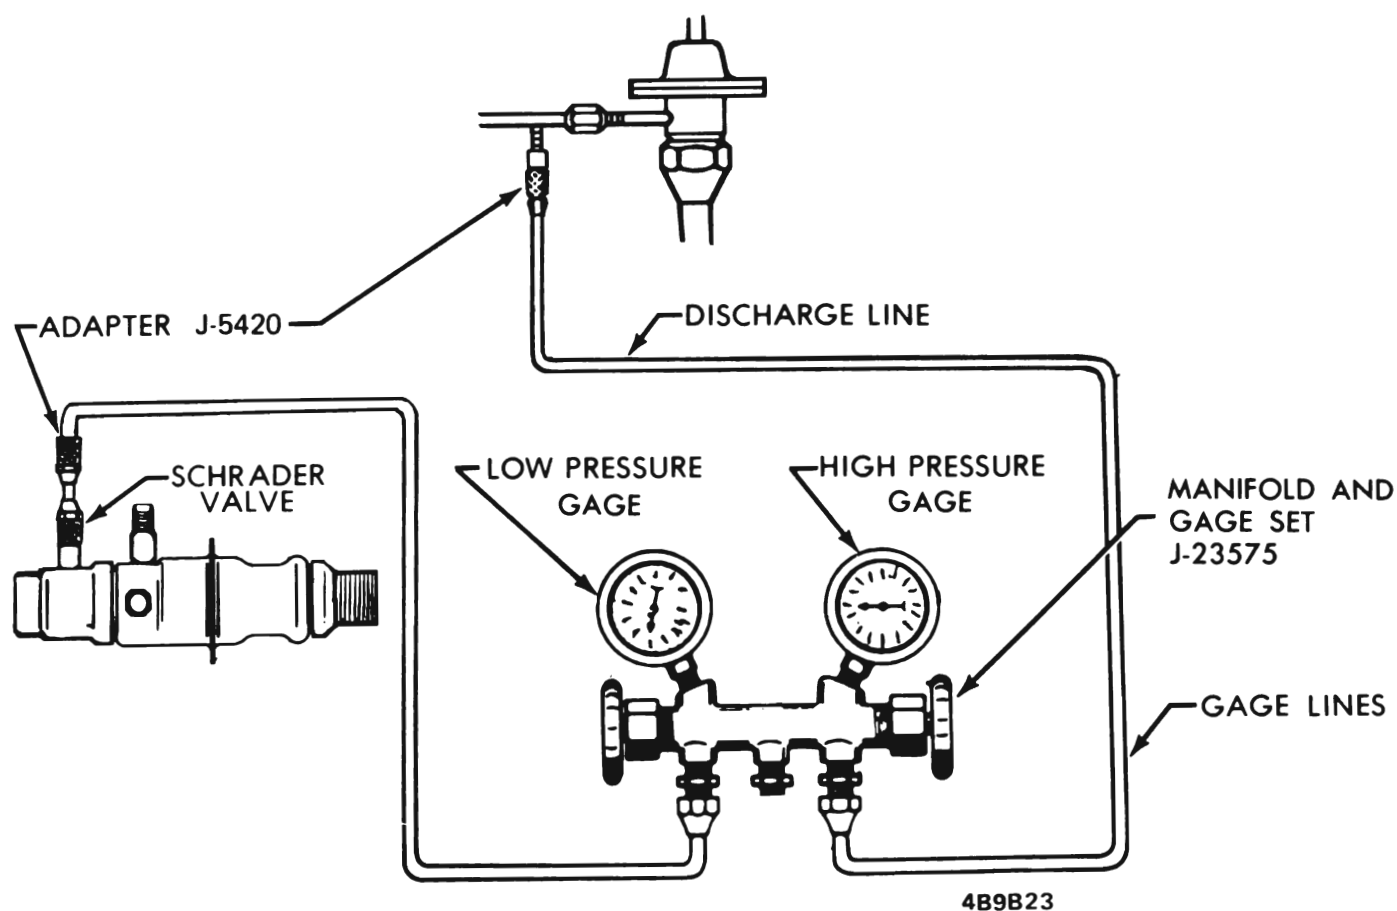

Figure 9B-20 Functional Test Set-Up - X Series
2. Interconnect manifold and gage set (J-23575), and gage adapters (J-5420) to air conditioning system as shown in Figure 9B-20.
9. Compare the actual pressures and temperatures with the pressures and temperatures indicated in the Functional Test Table (see Figure 9B-21).